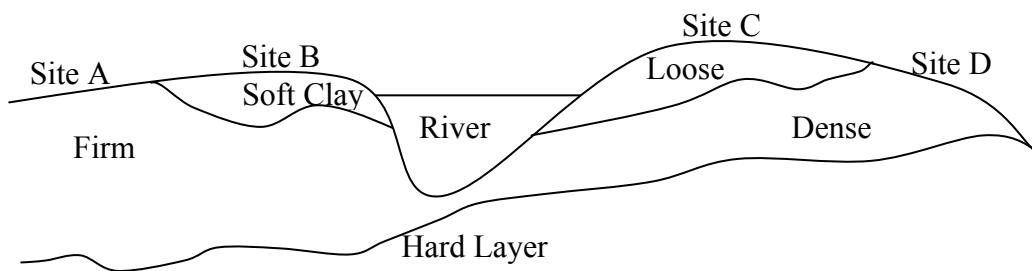

Figure 3
3. Figure 3 illustrates **FOUR (4)** proposed sites (A,B,C,D) for housing development project.